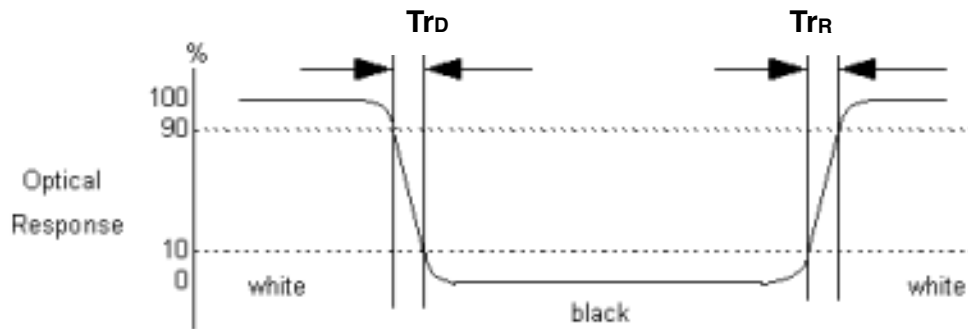

Fig.4-3 Response time
4. Response time is the time required for the display to transition from white(L255) to black(L0) (Decay Time, $T_{rD} = T_f$) and from black(L0) to white(L255) (Rise Time, $T_{rR} = T_r$). For additional information see FIG4-3.